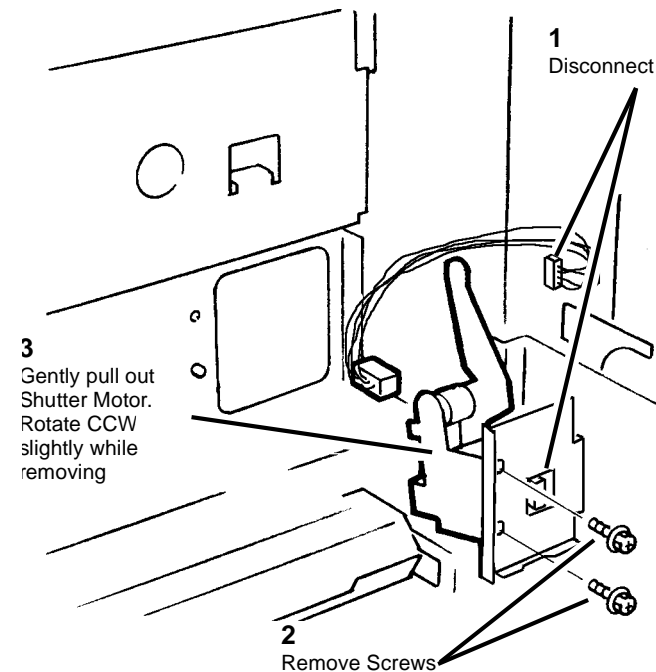

Figure 1 Removing Shutter Motor
3. Remove ROS Shutter Motor (Figure 1).